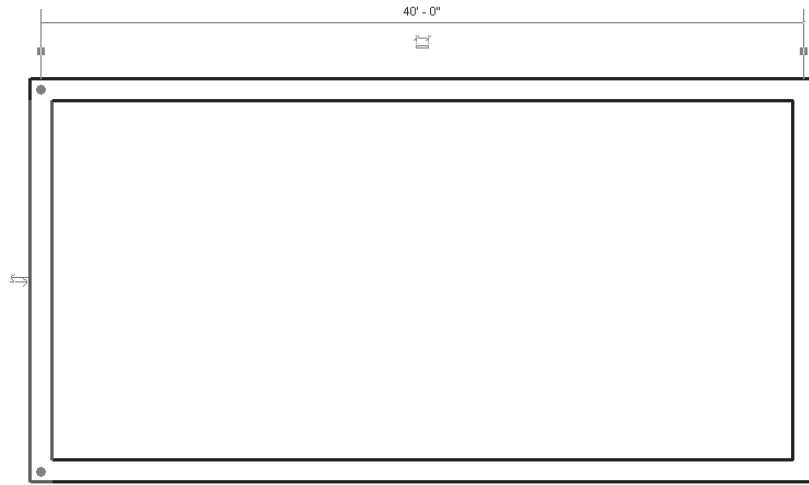

Figure 3-36 The completed exterior wall profile
2. Release the left mouse button at the intersection point to reduce the length of the fourth wall segment. The first and fourth wall segments are joined at the corner with their ends completed. The external wall profile is completed at the edge, as shown in Figure 3-36.